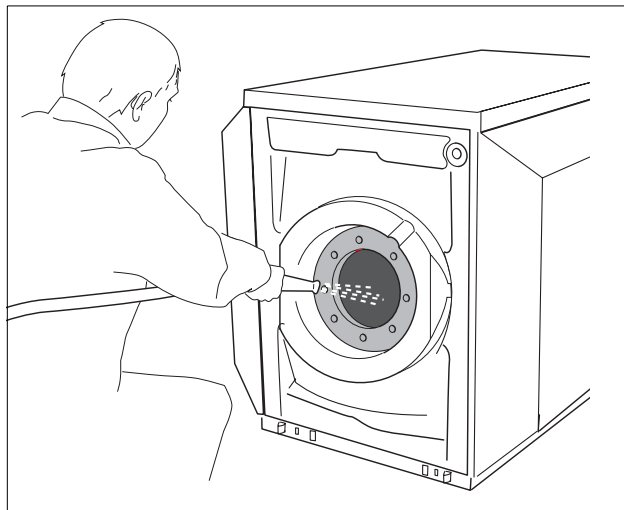

Fig. 16 Spraying of tank interior
- Spray the interior surfaces with a high pressure water stream (ca. 58 – 72 psi) (Fig. 16).